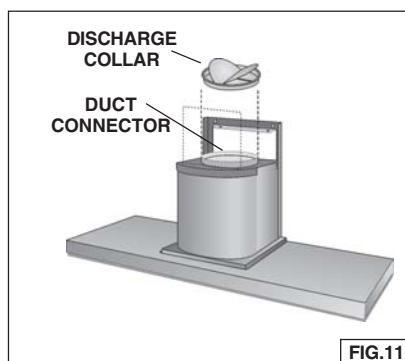

FIG.11
2. Install the discharge collar into the duct connector of the range hood. Fig. 11